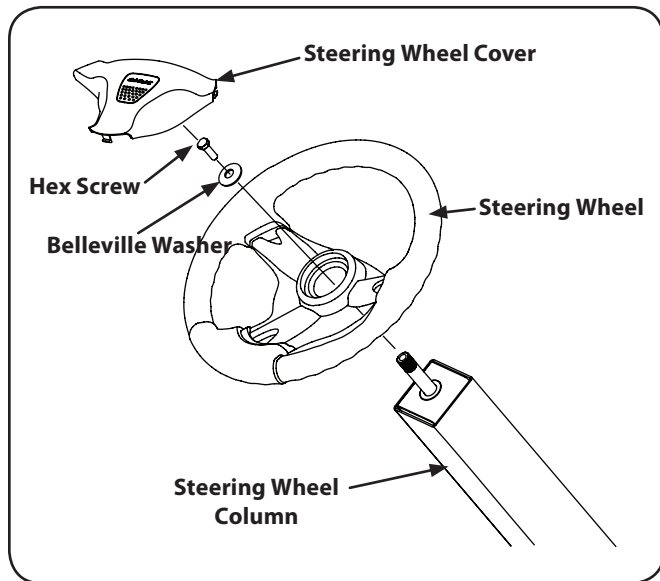

Figure 3-3
- Place the flat washer and belleville washer over the steering wheel and secure with the hex screw. See Figure 3-3.